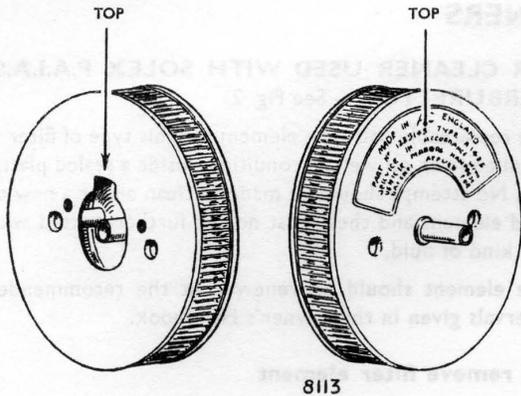

Fig. 3. Air cleaner—disposable type
**AIR CLEANERS USED WITH STROMBERG CD CARBURETTORS — See Fig. 3**
2. When fitting the new air cleaners or gaskets, the cut-away MUST be fitted uppermost as shown in Fig. 3. Incorrect fitting will cut off the air feed to the underside of the carburettor air valve diaphragm and thus prevent the carburettor from operating correctly.